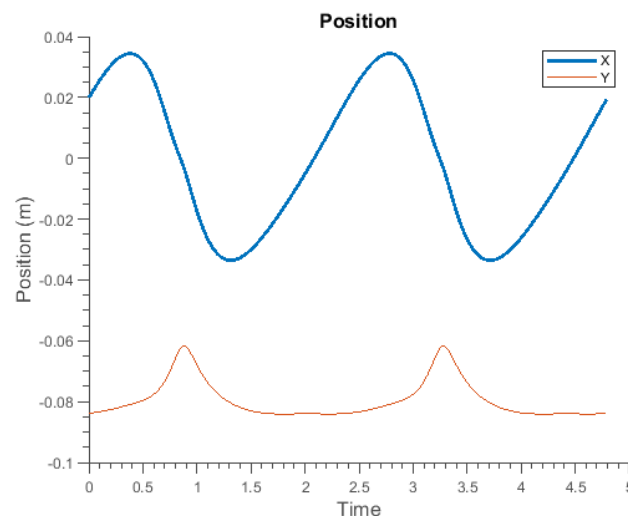

Figure 6. Results of position analysis: x and y positions as functions of time for point P.
- i. X-Position & Y-Position vs. Time (Figure 6)